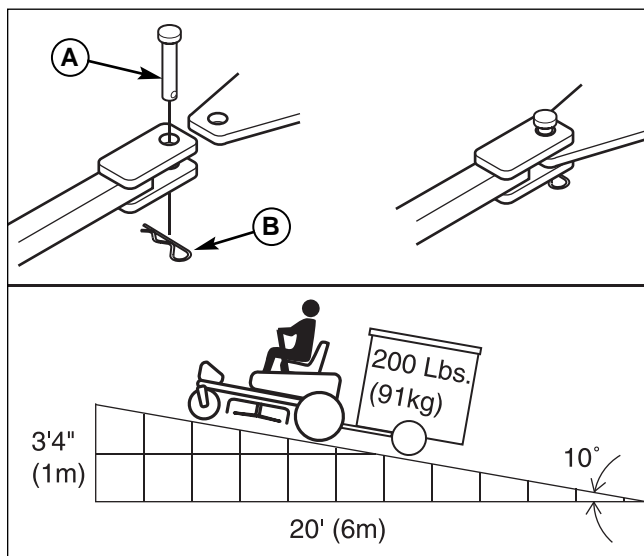

Figure 23. Trailer Weight Recommendations
The maximum weight of a towed trailer should be less than 200 lbs (91kg). Secure the trailer with an appropriately sized clevis pin (A, Figure 23) and clip (B).